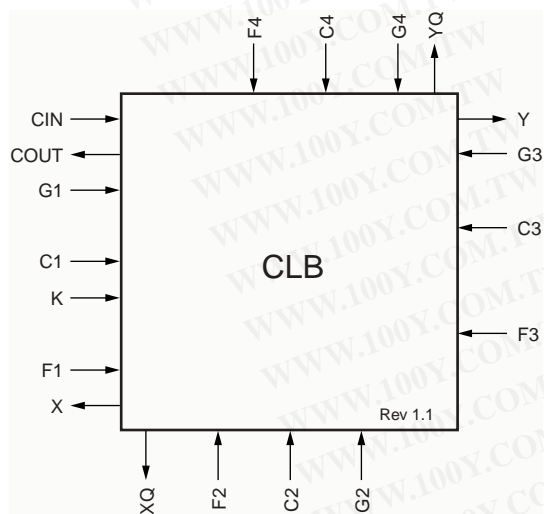

Figure 9: CLB Interconnect Signals
A block diagram of the CLB interface signals is shown in Figure 9. The input signals to the CLB are distributed evenly on all four sides providing maximum routing flexibility. In general, the entire architecture is symmetrical and regular. It is well suited to established placement and routing algorithms. Inputs, outputs, and function generators can freely swap positions within a CLB to avoid routing congestion during the placement and routing operation. The exceptions are the clock (K) input and CIN/COU signals. The K input is routed to dedicated global vertical lines as well as four single-length lines and is on the left side of the CLB. The CIN/COU signals are routed through dedicated interconnects which do not interfere with the general routing structure. The output signals from the CLB are available to drive both vertical and horizontal channels.